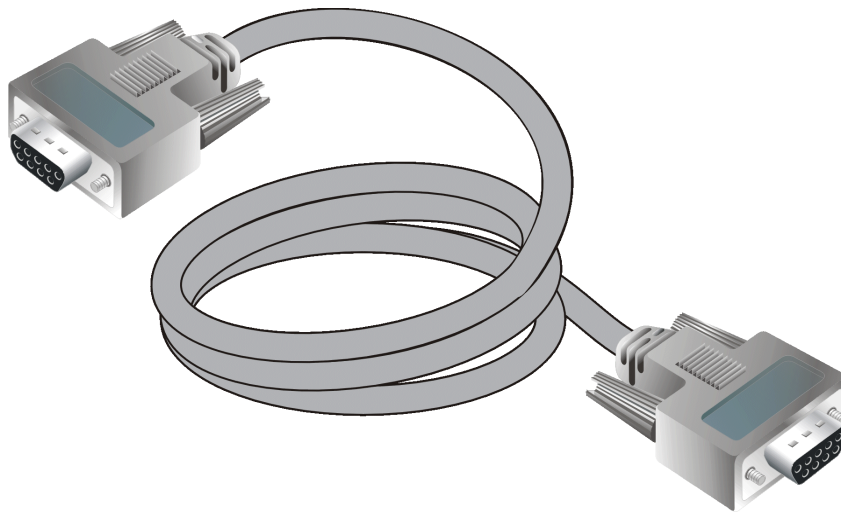

Figure 1-12: Null Modem Cable
- **Null modem cable**-An asynchronous RS-232 null modem cable is required to configure Director network addresses and acquire event log information through the maintenance port. The cable has nine conductors and DB-9 male and female connectors. A null modem cable is shown in Figure 1-12.